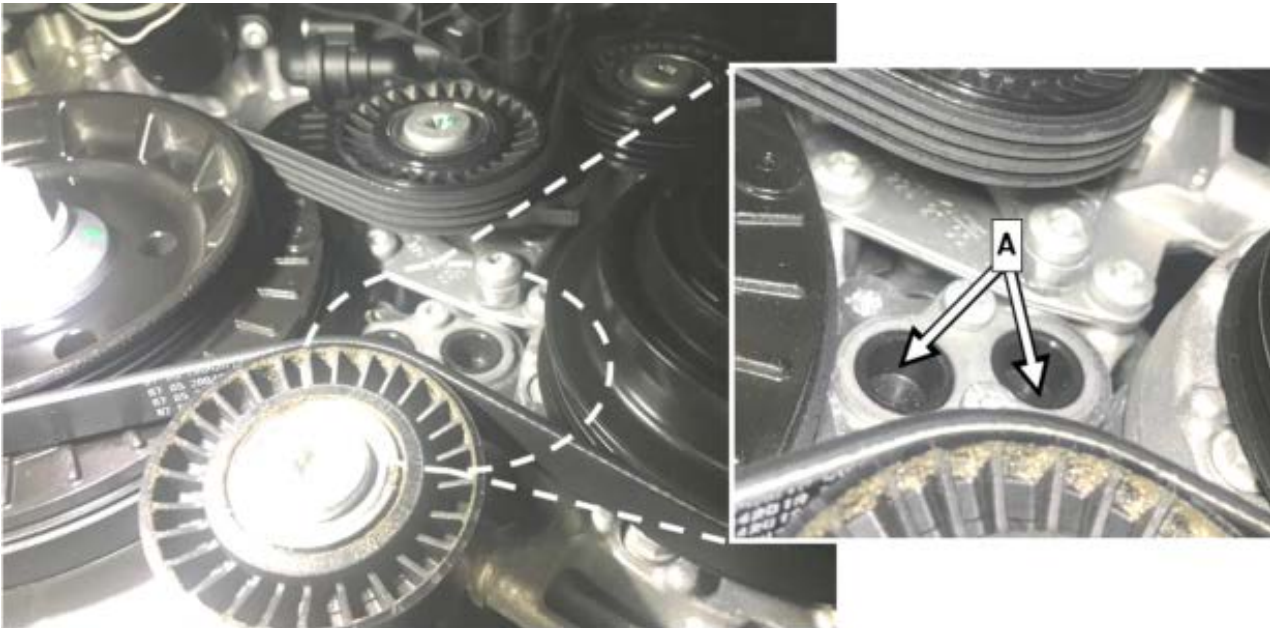

Figure 1
2. Clean stop plugs (**A, Figure 1**) in timing case cover.
4. Insert new additional stop plugs (**B, Figure 2**) into stop plugs (**A, Figure 1**).